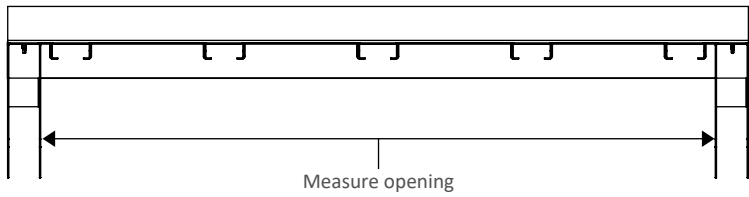

Fig. 84
- Insert cut U-Rim Joist in opening between Stair brackets then use C-Clamps to hold in place. As shown in Fig. 84 & 85.